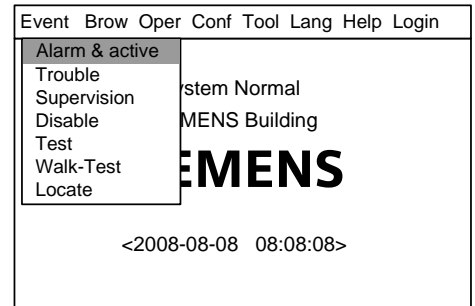

Fig.22-1
1. Press "Menu" to browse the main menu (Fig. 22-1)